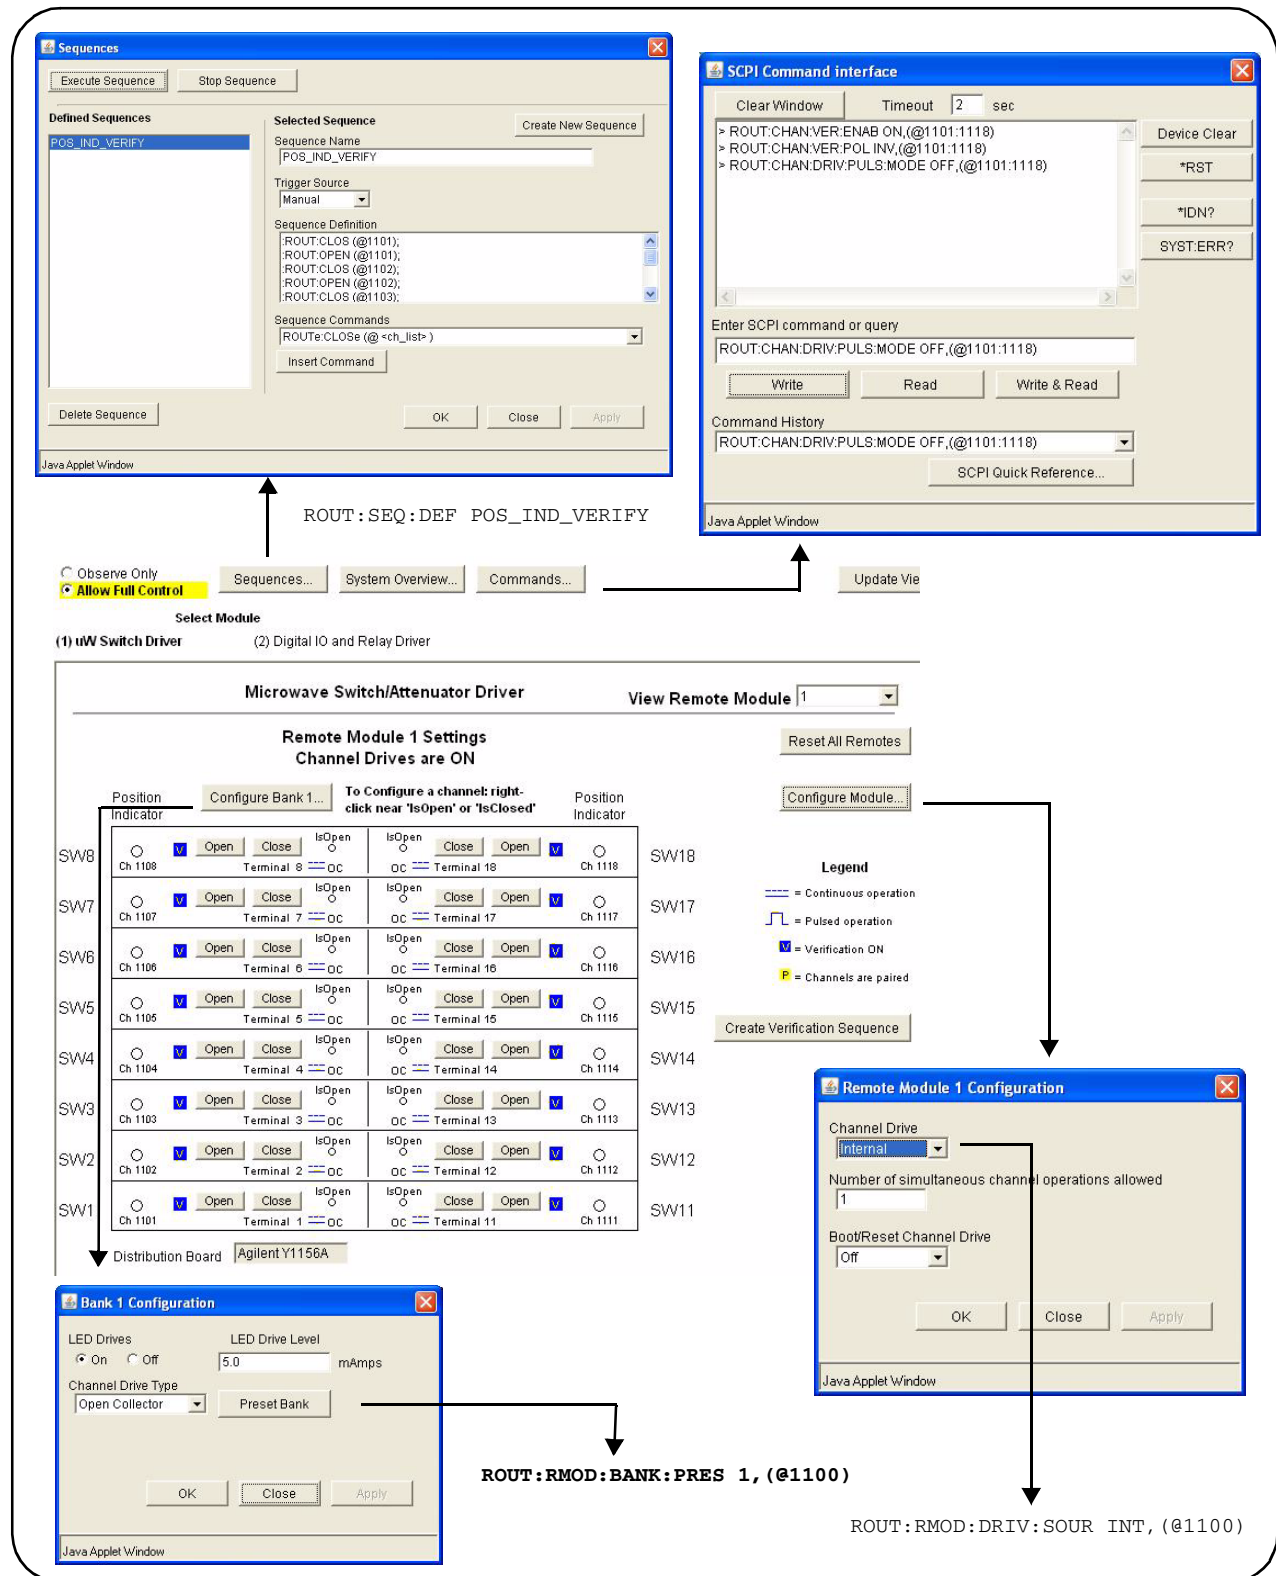

Figure 4-9. Using the Y1156A for Position Indicator Verification.
- 4 In the 'Browser Web Control' window, locate the bank and Y1156A programming diagram. An example of the diagram is shown in Figure 4-9.
- 6 Open the 'SCPI Command Interface' window (Figure 4-9) and from the window, send the commands: